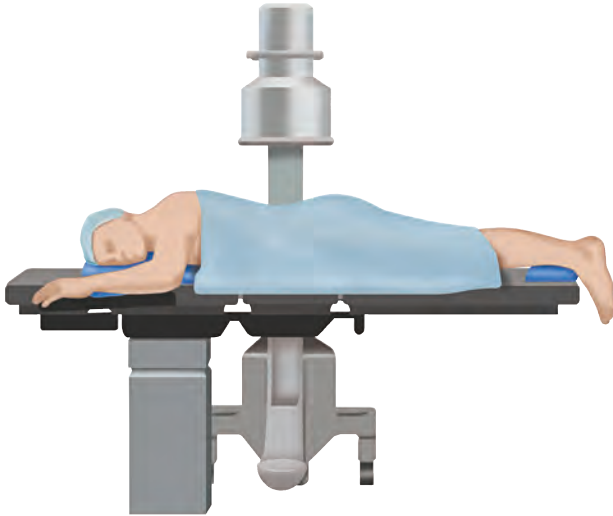

Figure 1
- Position the patient in the prone position on the operating table (**Figure 1**).